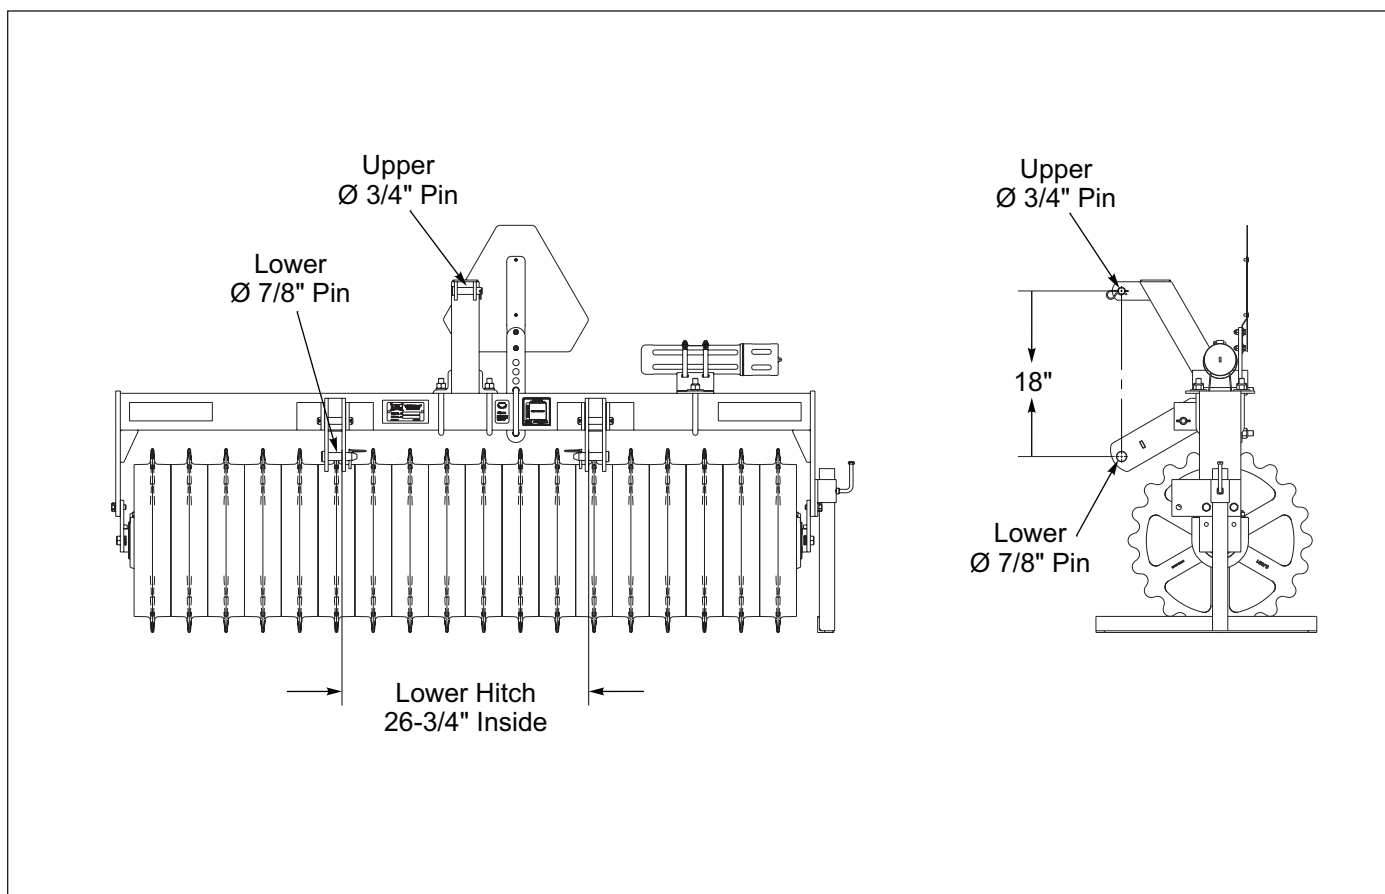

Figure 3-1: Category 3-PT Hitch, PP5-7
1. The Pulverizer is designed to be pulled by a Tractor equipped with a 3-PT Hitch Category based on Model. **See Figures 3-1 and 3-2.** Be sure Tractor's Hitch Capacity is not exceeded by the Laden Mass of the Pulverizer. **Refer to Tractor Operator's Manual.**
1. Attach the Pulverizer to the Tractor with the appropriate size pins and bushings based on the 3-PT Hitch Category being used. **See Figures 3-1 and 3-2.**